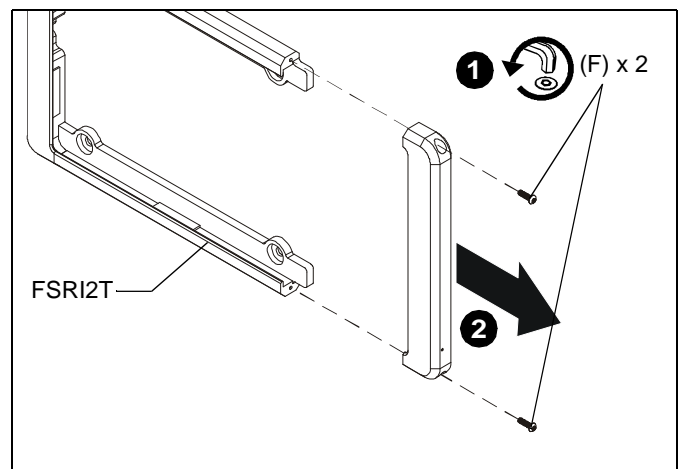

Figure 8
1. Remove two 06-32 x 1/4" buttonhead security screws from one end of the FSRI2T. (See Figure 8)
2. Remove one end of FSRI2T. (See Figure 8)